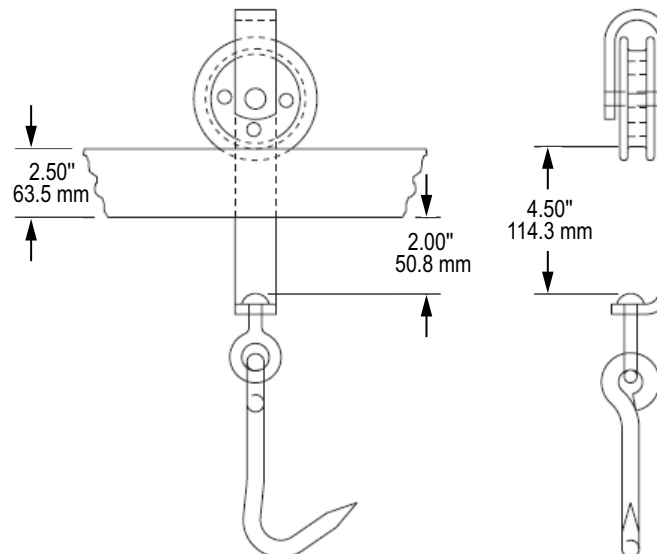

Figure 2-1. Minimum Clearances for Trolleys
Before installing the portable monorail scale, check the trolleys used in the plant to ensure there is adequate clearance between the top of the swivel hook and the bottom of the scale (Figure 2-1).
1. Check that all trolleys using the scale have adequate clearance to fit on the scale. See Figure 2-1 on page 7 for minimum clearance size.